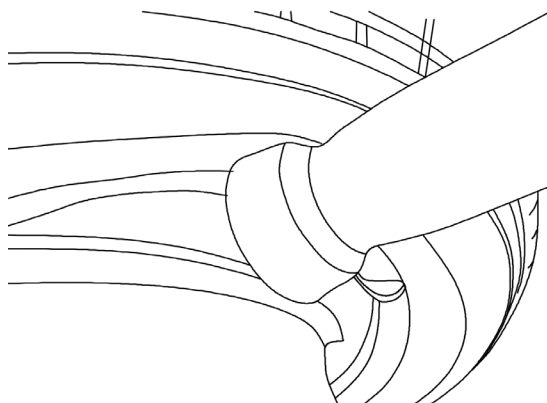

Fig.19
- 1) Adjust the help arm and move the pressing roller under the tyre (Fig.19), without touching the rim.
- 3) Pull down cylinder hand operated valve of mount/demount head, and the hook will go deep into the tyre from the rim and lift the tyre up slowly. The position of the hook please refer to the picture Fig.19 Then pull up the cylinder hand operated valve to lift the lower tyre bead off the rim.